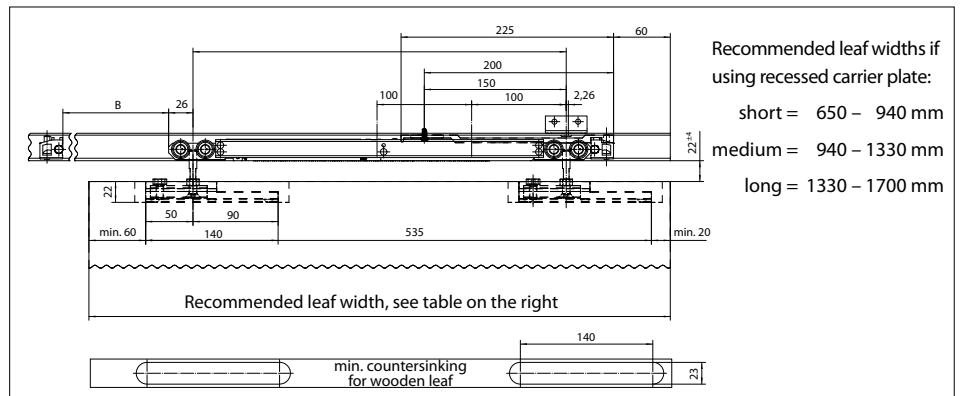

Fig. 13-4
e.g. with wooden leaf, recessed carrier plate, short design (1-side), damping in both directions, see Fig. 13-4